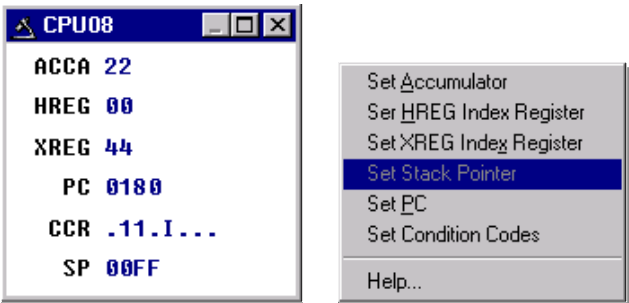

Figure 6-13. CPU08 Window with Shortcut Menu
Use the CPU window (**Figure 6-13**) or its shortcut menu options to view and modify the current state of registers within the CPU.
- To change CPU register values using the shortcut menu options, position the cursor in the CPU window and click the right mouse button. Choose the option from the shortcut menu shown on the right of **Figure 6-13**. Enter the new value in the dialog and press OK to close the dialog and save the new value.